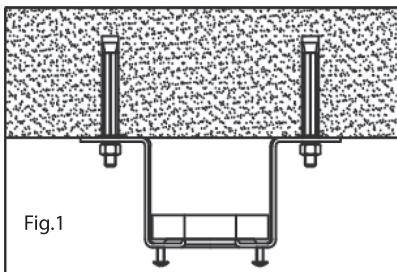

Fig.1
1) Concrete ceiling: Drill two holes to a suitable depth with a diameter drill bit. At 8mm, insert two expansion screws into the holes, then fix the hanging bracket to the expansion screws with the wood screws and tighten it by the expansion screw nuts. (fig. 1)